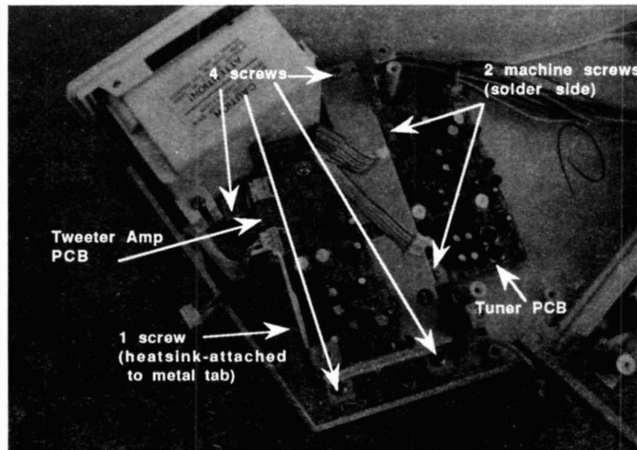

Figure 14
33. Tuner PCB Removal (Figure 14)
34. Tuner PCB Installation (Figure 14)